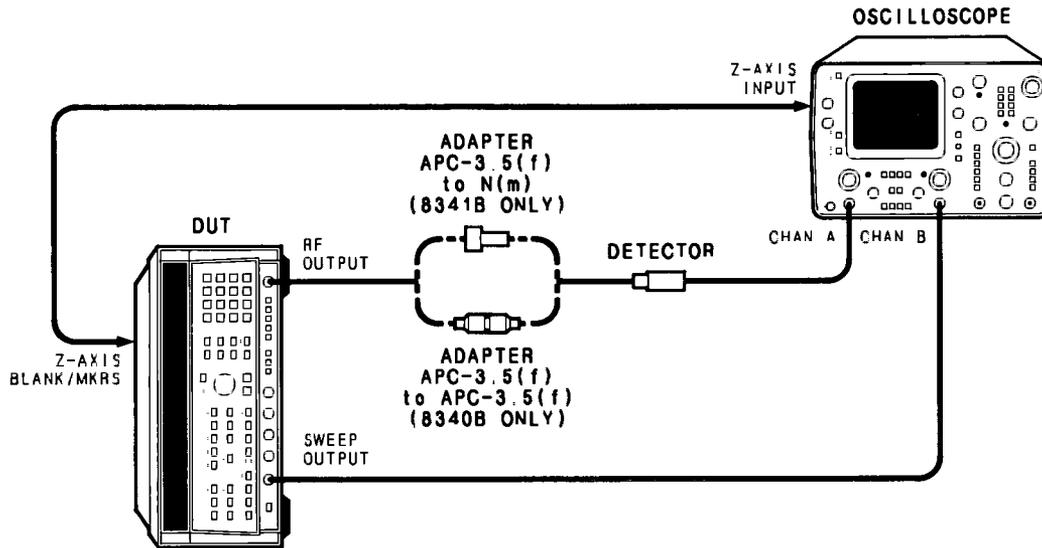

Figure 5-57. Leveled Bias Adjustment Setup, Bands 2 through 4
30. Remove the oscilloscope probes and connect the detector and oscilloscope as shown in Figure 5-57. On the DUT, press **[INSTR PRESET] [RECALL] [2]**. Press **[SWEEP TIME] [AUTO]**. Press **[SHIFT] [PWR SWP] [-] [2] [0] [dBm]**.